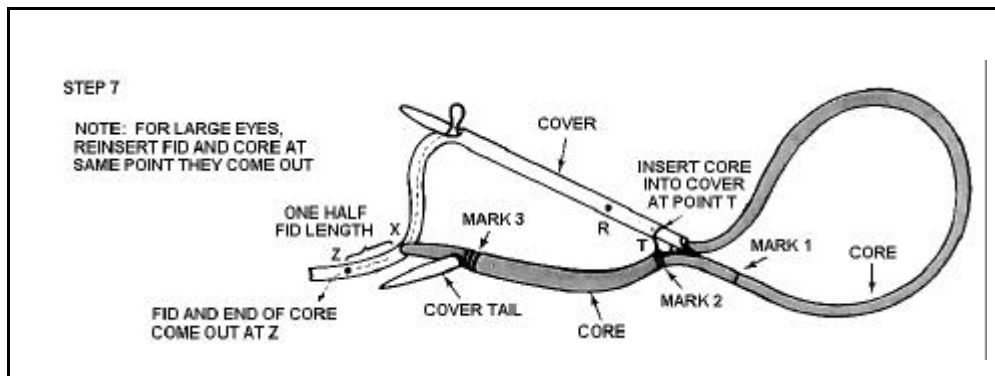

Figure 12-58. Reinserting the Core Into the Cover
- **STEP 7 -- Reinserting the core into the cover.** From point X on cover, measure approximately one-half fid length toward slip knot on line and mark this as point Z (see Figure 12-58, page 12-50). You are now ready to put core back into cover from point T to point Z. Insert fid at point T. Jam the taped core end tightly into end of fid. With pusher push fid and core through cover "tunnel," past point X, to and through cover at point Z. When using wire fid, attach fid to taped core. After fid is on, milk braid over fid while pulling through from point T to point Z. When pushing fid past point X to point Z, make sure fid does not catch any internal core strands.